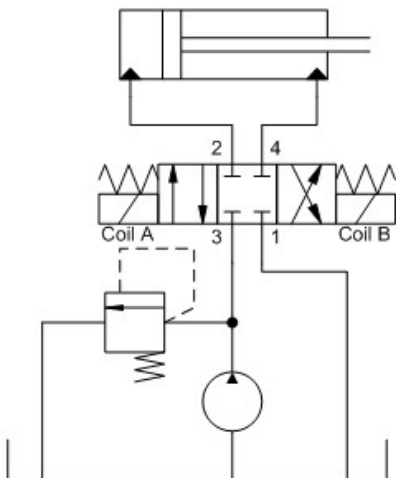

Figure 11.
- In differential flow applications, the higher return flow should be directed from port 2 to port 1 to take advantage of the lowest pressure drop. (See Figure 11.)